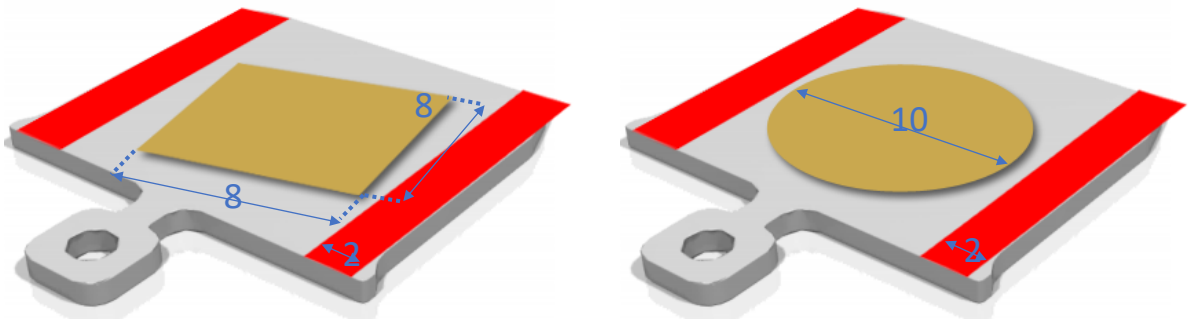

Fig. 2 Maximal acceptable dimensions of the sample.
3. Leave the stripes of 2 mm wide on both sides of the plate free and smooth for the holding springs (marked red in Fig. 2). The visualizations of samples with maximal possible dimensions are shown below (Fig. 2). Please note that the flag style plate is mounted vertically in the analysis chamber.